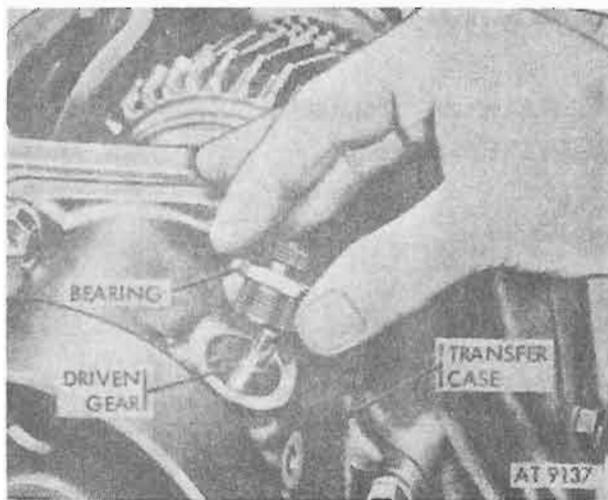

Figure 8-4. Speedometer driven gear and bearing.
d. Remove speedometer-driven gear bearing from transfer case (fig. 8-4) and withdraw speedometer-driven gear from transfer case.